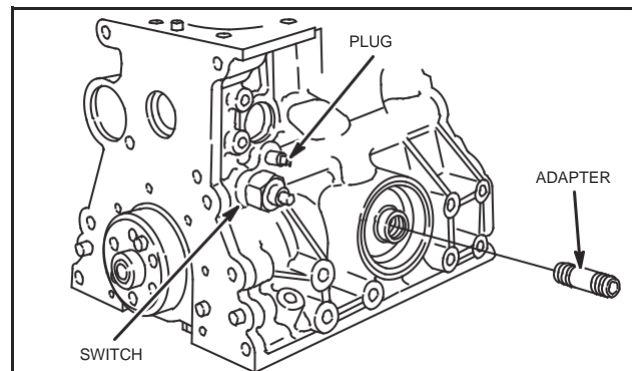

Fig. 10 – Removing Oil Pressure Switch
1. Remove oil pressure switch, water gallery plug and oil filter adapter, Fig. 10.